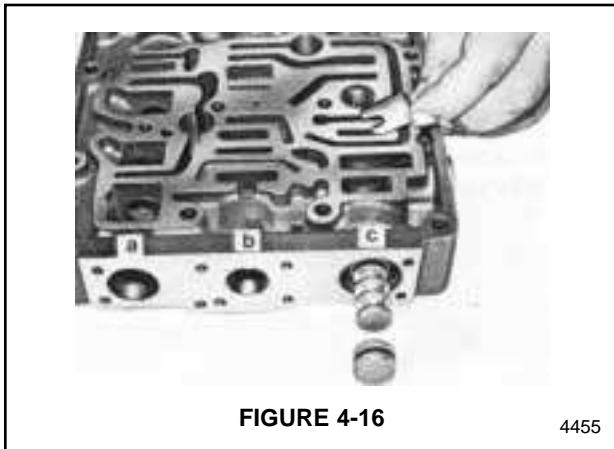

FIGURE 4-16
4. Install ring (46) on spool (43). Insert spool (43) into bore "d." Install detent block (42) and stop plate (41) into bore "d."
5. Install ring (44) on piston (40). Install piston (40) into bore "d." Install snap ring (39) into bore "d."
6. Install spool (34) into bore "c." See Figure 4-16. Install detent block (33) and stop plate (32).